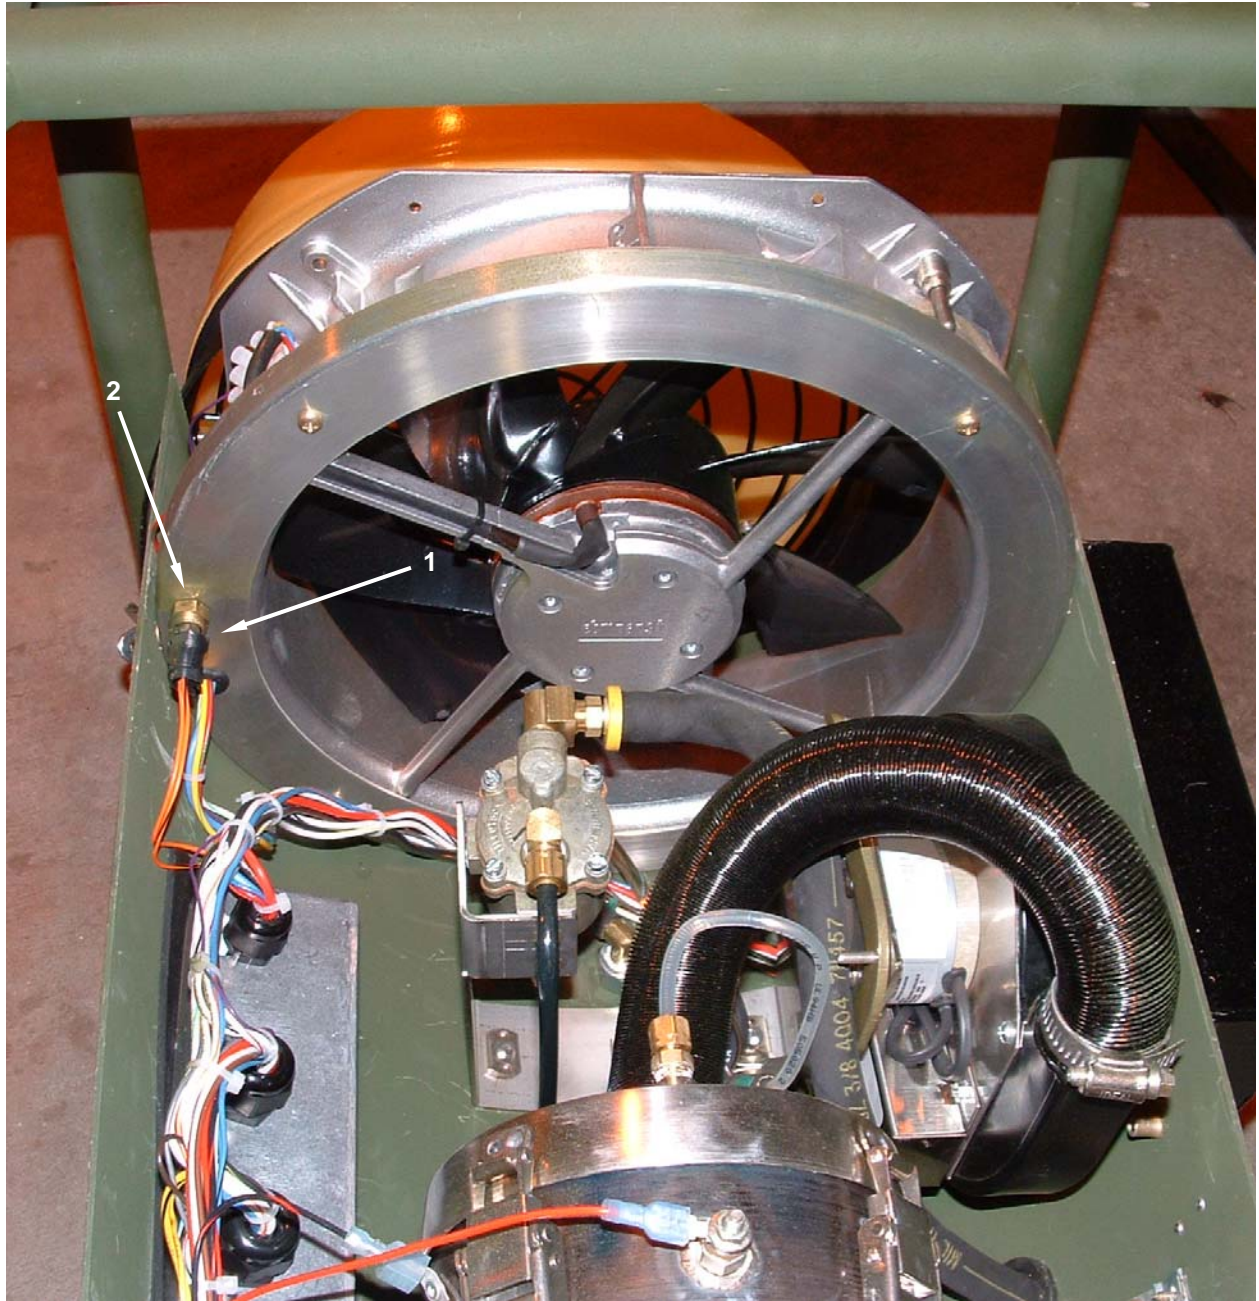

Figure 1. Inlet Air Temperature Sensor
1. Remove connector (**Figure 1, Item 1**) at end.
2. Remove inlet air temperature sensor (**Figure 1, Item 2**).
3. Install new inlet air temperature sensor (**Figure 1, Item 2**).
4. Reconnect connector (**Figure 1, Item 1**).